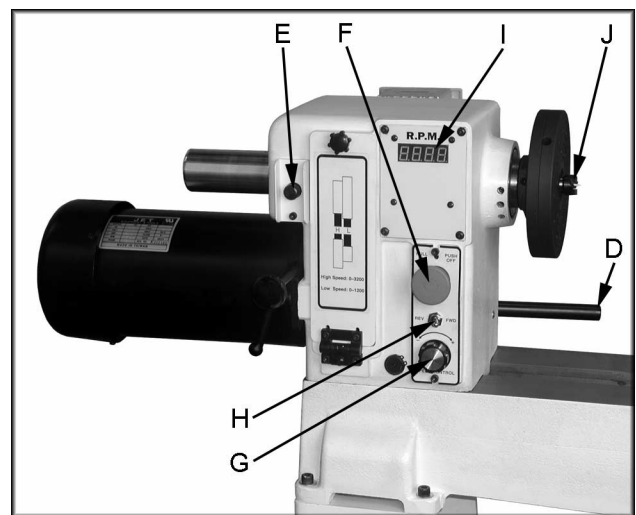

Fig. 6
1. **Headstock Lock Handle:** (D, Fig. 6) Locks head in position. Unlock handle to position the head along lathe bed. Tighten handle when properly positioned.
2. **Headstock Spindle Lock:** (E, Fig. 6) Push pin in to keep the spindle from turning. **CAUTION!** Never press the headstock spindle lock while the spindle is turning!
3. **Headstock On/Off Button:** (F, Fig.6) Pull the button out to turn "ON" the lathe. Push the button in to turn the lathe "OFF".
4. **Headstock RPM Knob:** (G, Fig. 6) Turn knob to desired RPM. There are two speed ranges offering "speed" (0-3200) and "torque" (0-1,200).
5. **Headstock For/Rev Switch:** (H, Fig. 6) Use the toggle switch to change the direction the spindle turns. Only change direction when the spindle has stopped.
6. **Headstock RPM Readout:** (I, Fig. 6) Displays the spindles RPM, see Figure 7.